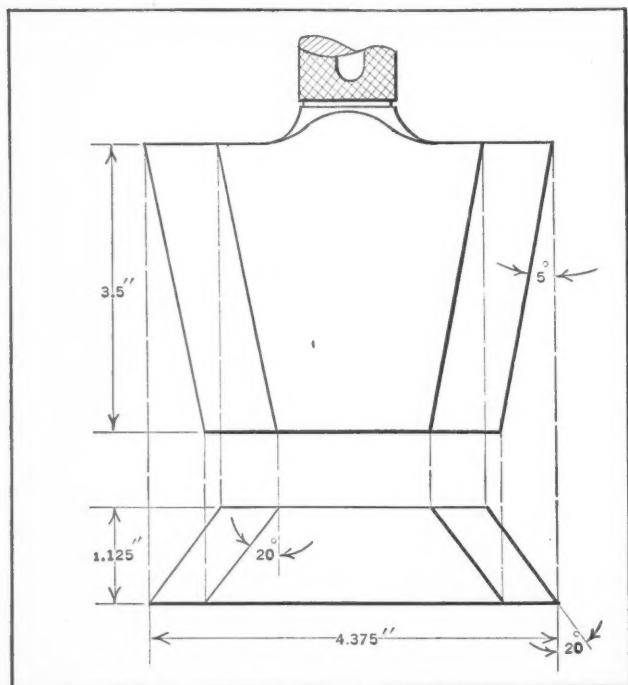

Fig. 1. Taper Gage to be Inspected
C. E.—A taper gage with beveled sides, as shown in Fig. 1, is required. What is the most practical and convenient method of checking or inspecting the accuracy of this gage? A method that can be used in the ordinary tool-room or inspection department, under everyday practical conditions, is required.
The first step in measuring the gage shown in Fig. 1 is to check the 5-degree and 20-degree angles. To do this, the gage *A* is mounted on an angle-plate, as shown in Figs. 3 and 4. The accurate parallels *C*